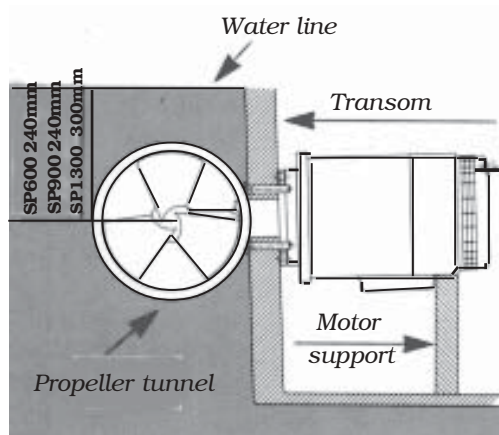
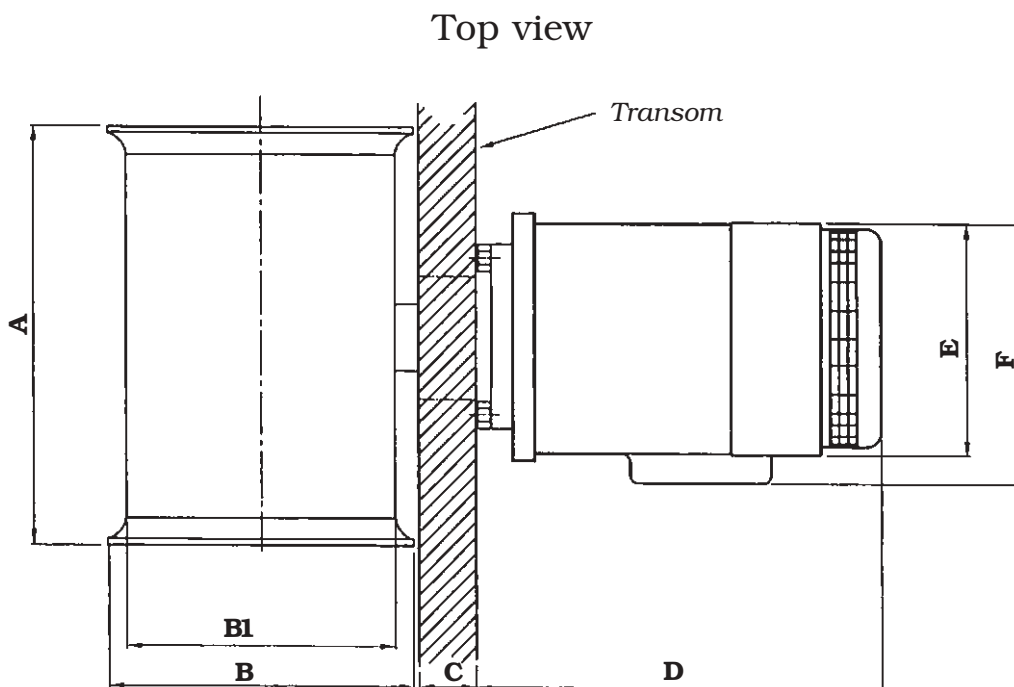

Fig. 1
Fig. 2
1. Decide the position for the stern thruster, see installation drawing (fig.1) and dimensional drawing (fig. 2).
11. The motor has to be properly supported to off-load weight and tension on suspension design and tunnel/transom. See fig. 1 and 7.